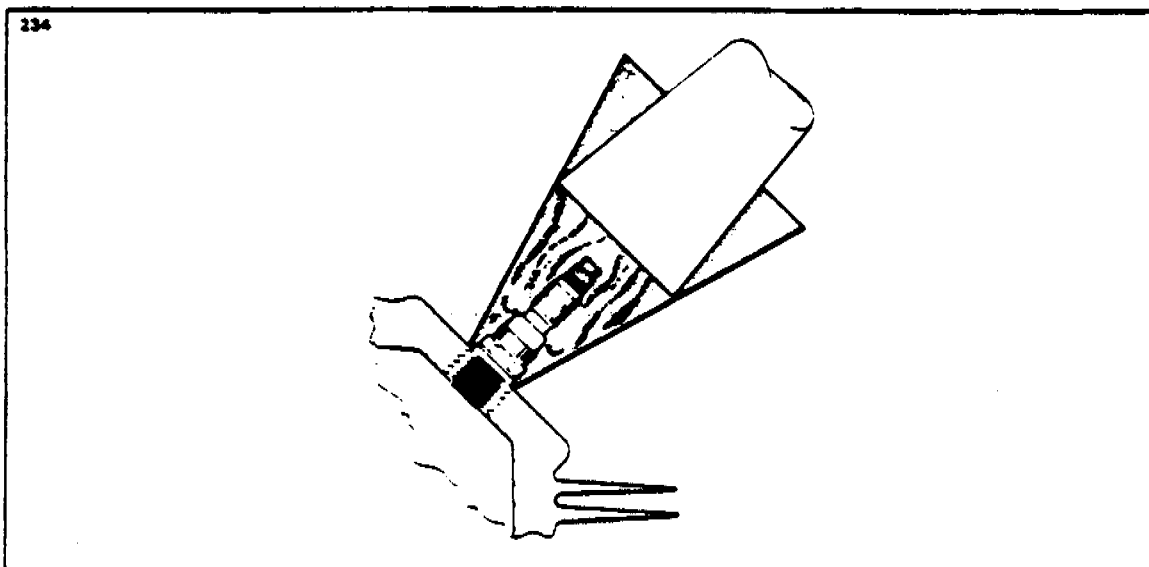

FIGURE 7C-16. REMOVING FROZEN SPARK PLUG
- d. Removal of seized spark plugs in the cylinder may be accomplished by application of liquid carbon dioxide by a Conical metal funnel adapter with a hole at the apex just large enough to accommodate the funnel of a CO2 bottle. (Refer to Figure 7C-16.) When a seized spark plug cannot be removed by normal means, the funnel adapter is placed over and around the spark plug. Place the funnel of the CO2 bottle inside the funnel adapter and release the carbon dioxide to chill and contract the spark plug. Break the spark plug loose with a wrench. A warm cylinder head at the time the carbon dioxide is applied will aid in the removal of an excessively seized plug.